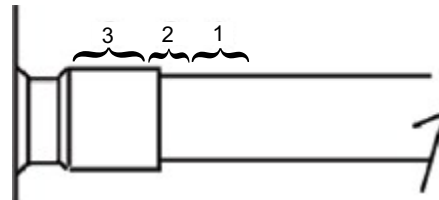

Figure 3
The suction and discharge plugs should be left in place until the compressor is set into the unit. If possible, the compressor should be kept vertical during handling. The discharge connection plug should be removed first before pulling the suction connection plug to allow the dry air pressure inside the compressor to escape. Pulling the plugs in this sequence prevents oil mist from coating the suction tube making brazing difficult. **The copper coated steel suction tube should be cleaned before brazing (see Figure 3).** No object (e.g. a swaging tool) should be inserted deeper than two inches (51 mm) into the suction tube, or it might damage the suction screen and motor.
These compressors are available with stub tube or rotalock connections. The stub tube version has copper-plated steel suction and discharge fittings. Due to the different thermal properties of steel and copper, brazing procedures may have to be changed from those commonly used. See **Figure 3** for assembly line and field brazing procedures and **Table 2** for Rotalock torque values.
Figure 3 discusses the proper procedures for brazing the suction and discharge lines to a scroll compressor. **NOTICE It is important to flow nitrogen through the system while brazing all joints during the system assembly process.** Nitrogen displaces the air and prevents the formation of copper oxides in the system. If allowed to form, the copper oxide flakes can later be swept through the system and block screens such as those protecting capillary tubes, thermal expansion valves, and accumulator oil return holes. The blockage – whether it is of oil or refrigerant – is capable of doing damage resulting in compressor failure.
It is important to check both the high pressure and low pressure sides with manifold gauges before unbrazing. Instructions should be provided in appropriate product literature and assembly (line repair) areas. If compressor removal is required, the compressor should be cut out of system rather than unbrazed. See **Figure 3** for the proper compressor removal procedure.
2. Install the suction and discharge manifolds. If the manifolds are brazed to the compressors following the brazing guide in **Figure 3**. If the manifolds are connected to the compressors with rotalocks torque the rotalocks to the value specified in **Table 2**.